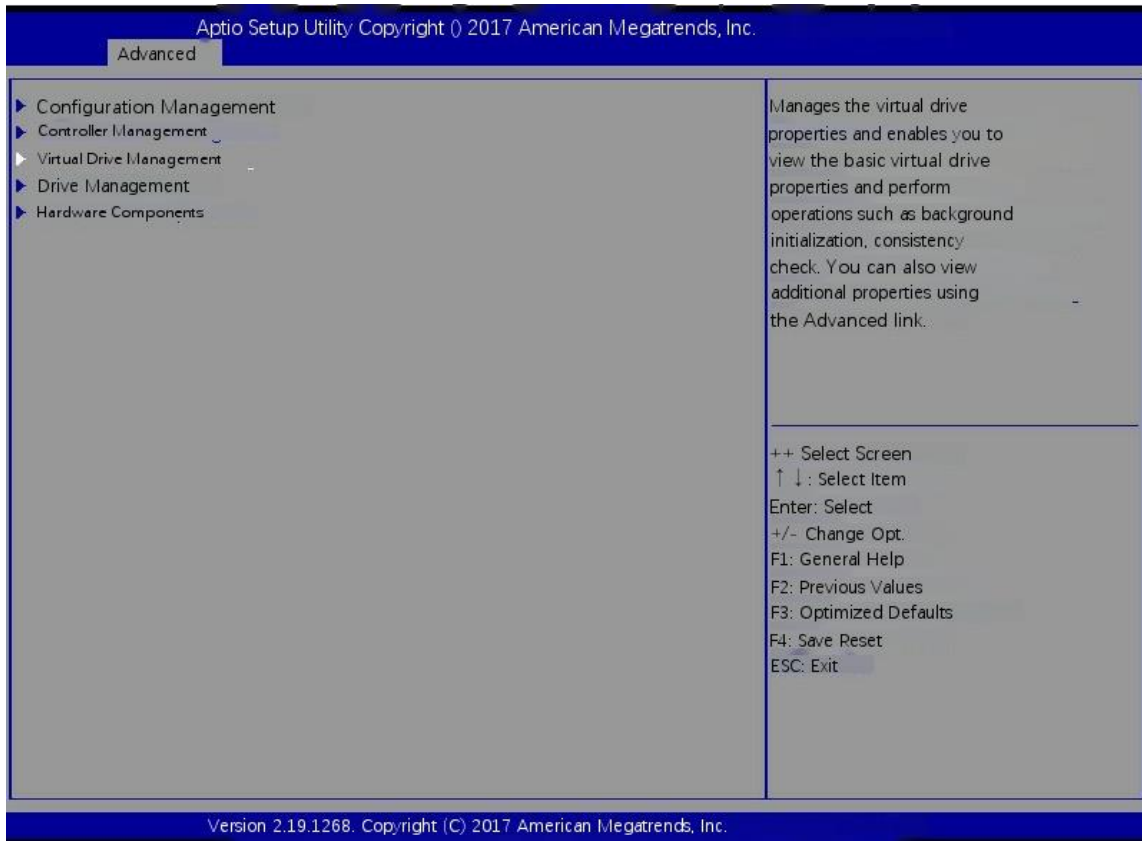

Figure 6-16
- j) As shown in Figure 6-16, select virtual drive management in the raid card configuration interface and press enter.